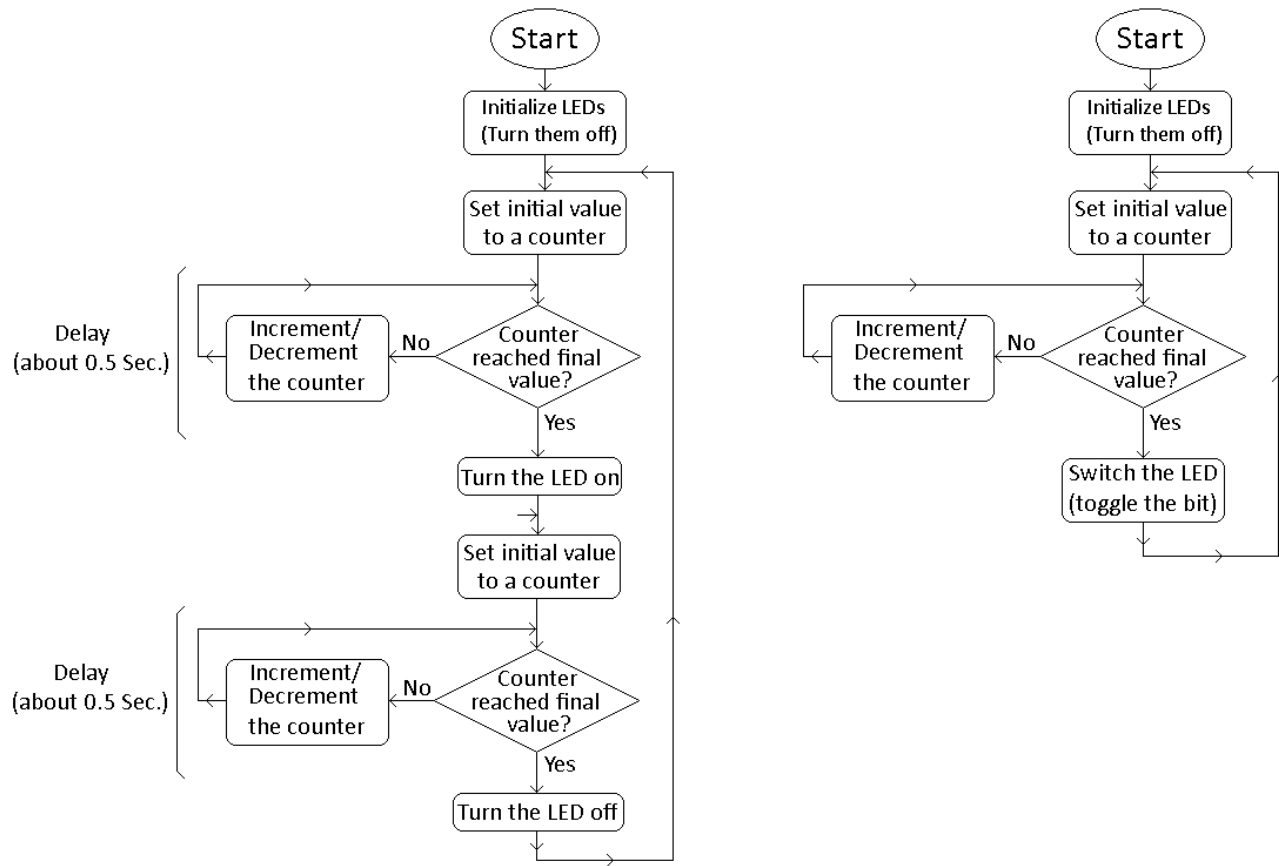

Figure 1.1 – Flowcharts for flashing LED
- Then implement the flashing LED code using an infinite loop which toggles bit 28 of the address 0x2009C020. Figure 1.1 shows the two different approaches. The shorter flowchart leads to smaller code size and is more efficient. Your code, when demonstrated for marking, must be using the short flowchart. **But it is strongly recommended that you implement the longer flowchart as the first step.** Once you get the longer flowchart working, changing your code to implement the short flowchart will be an easy step.